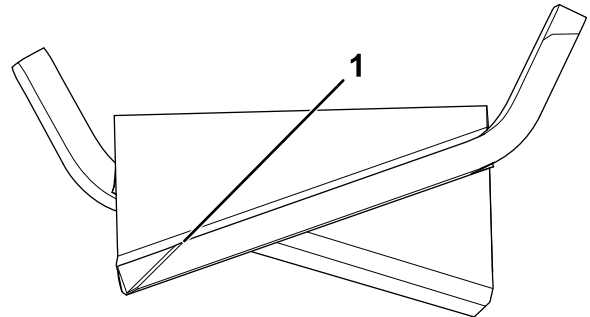

Figure 106
1. Use a file or sharpening tool to sharpen the cutting edge at both ends of the blade (Figure 106).